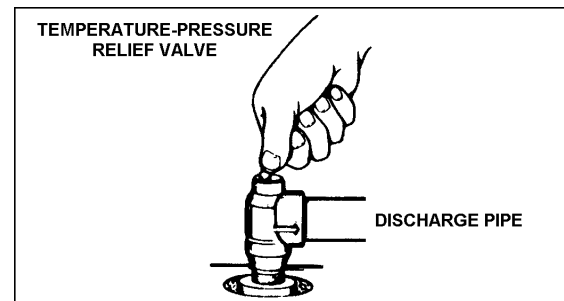

FIGURE 17
The temperature-pressure relief valve must be manually operated at least once a year, (see Figure 17). Caution should be taken to ensure that (1) no one is in front of or around the outlet of the temperature-pressure relief valve discharge line, and (2) the water manually discharged will not cause any bodily injury or property damage because the water may be extremely hot.